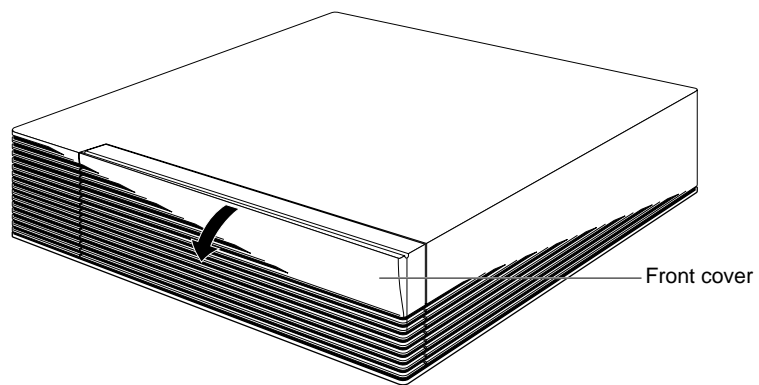

Figure 4-1 Removing the Front Cover
- Open the front cover by snapping it away from the top edge of the chassis and tipping it down, as shown in Figure 4-1.